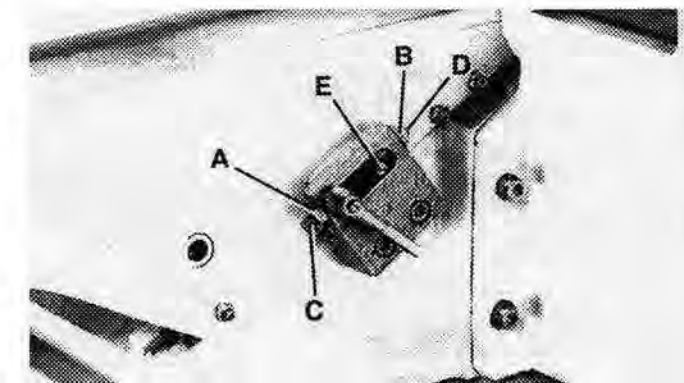

FIGURE 21
2. Loosen two lock nuts (A) and (B) Fig. 21, and turn the adjustment screws (C) and (D), which are located at the rear of the infeed table, as required. A good suggestion is to set the upper positive stop (D) against stud (E) for your finish or final cut. This means that you will be able to rapidly set the infeed table for a finish or final cut without checking the scale and pointer. Also, the lower positive stop (C) can be set against stud (E) at the maximum depth of cut, if desired.
3. Tighten locking nuts (A) and (B) Fig. 21, after adjustments are made.